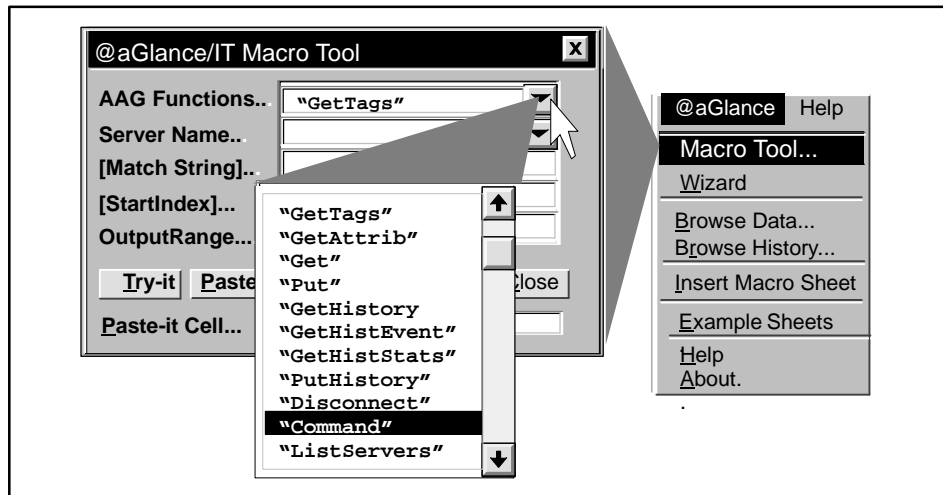

Figure A-3 Displaying the @aGlance Macro Functions
- Click **Macro Tool...** to display the first @aGlance/IT macro function. You can click the display tool to see a list of all the functions (Figure A-3).